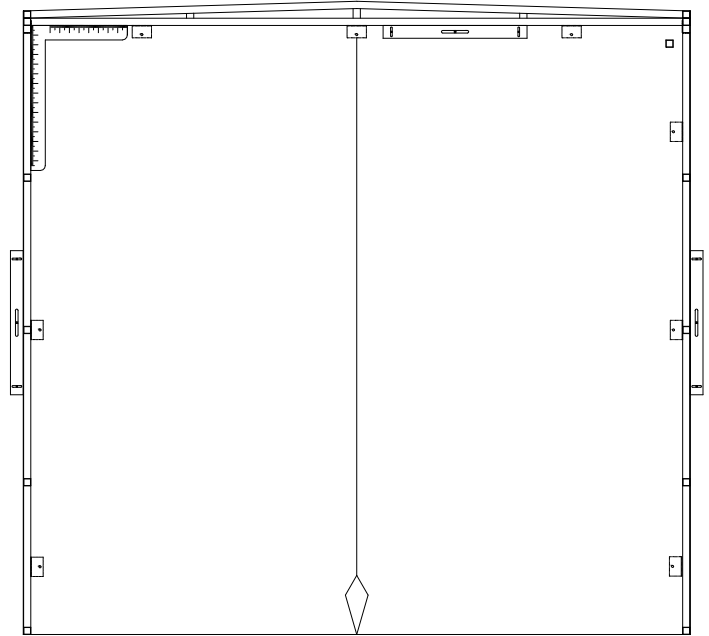

FIG. 9A
- a. **Make sure entire shelter is plumb, level, and square** (Figure 9a).